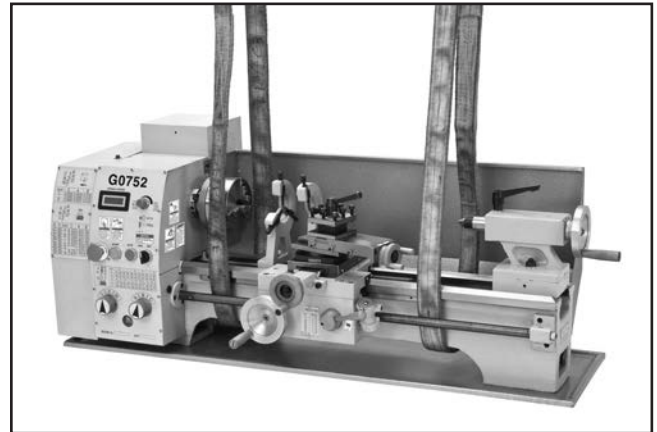

Figure 14. Example of lifting strap positions.
5. Wrap the lifting straps around the bed and between the leadscrew and the bedway, as shown in **Figure 14**, to help prevent bending the leadscrew during lifting.